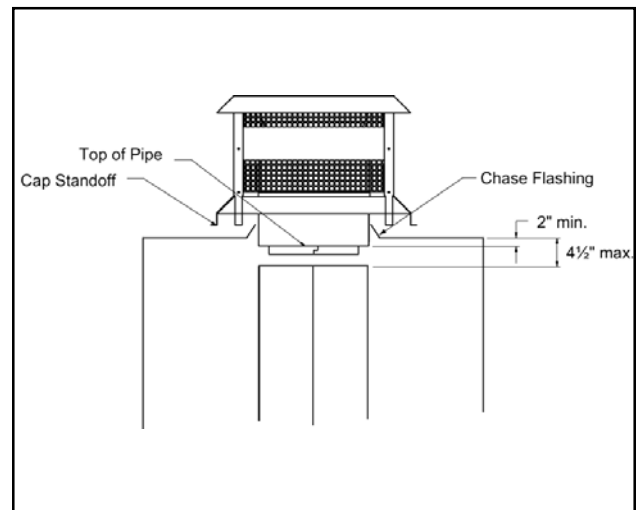

Figure 16
- For installations utilizing an ST1175 square termination cap the last chimney section must not be more than 4½" below the chase top. See Figure 16.